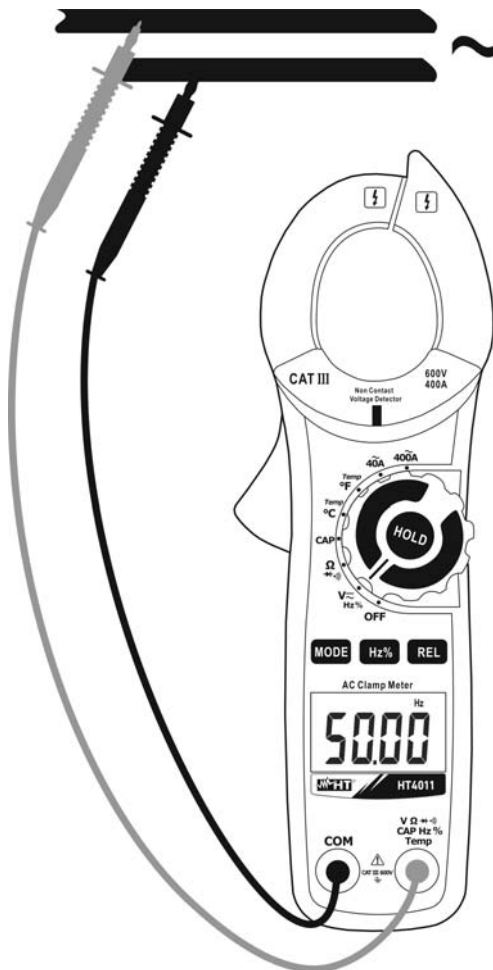

Fig. 4: Use of the clamp for frequency measurement and duty cycle
3. Insert the red cable into input terminal **VΩ▶▶CAPHz%Temp** and the black cable into input terminal **COM** (Fig. 4 – left side) for measuring frequency with leads. The value of frequency (Hz) or of duty cycle (%) is shown on the display.